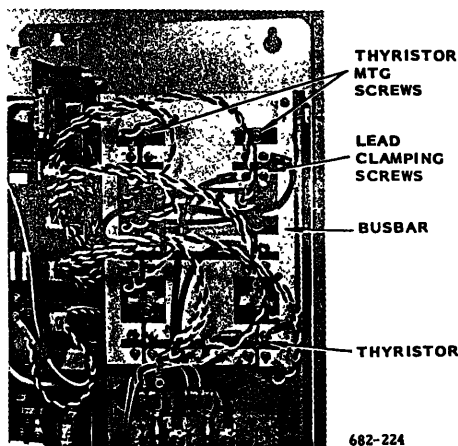

Fig. 14 With Snubber Board Removed
2. Remove bus bar mounting screws and lead clamping screws connected to thyristor. Remove bus bar and leads. (Fig. 14) In this case, mark the terminals for identification.